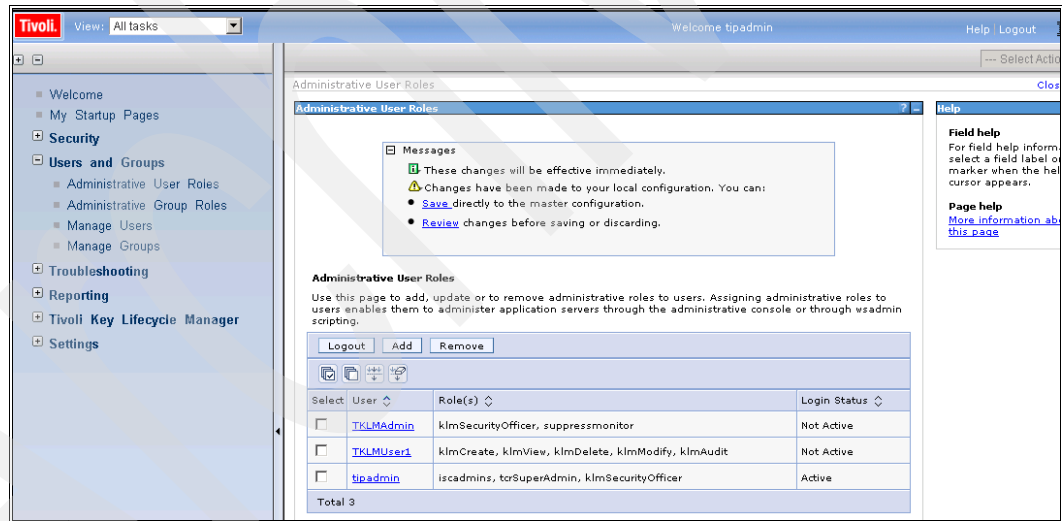

Figure 9-10 Administrative User Roles Panel, requesting Save
- If the role selection was successful, the **Administrative User Roles** panel is displayed, prompting you to either **Save** or **Review** the addition (Figure 9-10). Click **Save**.